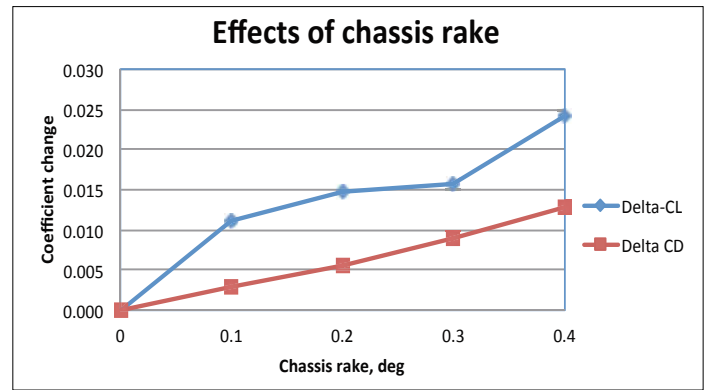
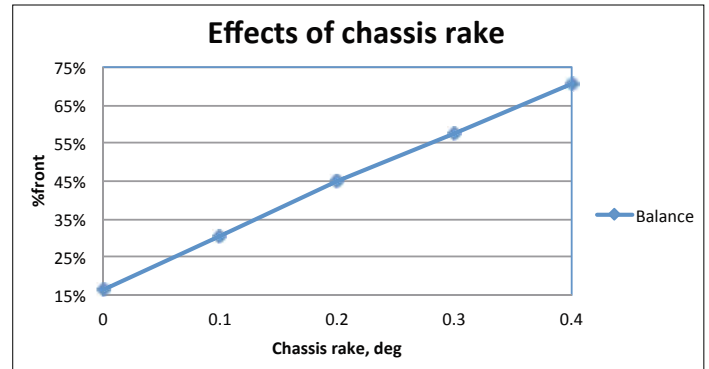

Figure 12: Adding chassis rake altered downforce and drag
Figure 13: Balance was profoundly affected by chassis rake adjustments
floor and stationary wheels) chassis rake can be a potent aerodynamic tuning tool. So, a medium diffuser angle was set (the diffuser exit was set to 100mm or 3.94in, corresponding to 9.4 degrees roof angle) and the chassis was rotated about the front tyre contact line to a range of rake angles from zero to 0.4 degrees. These rake angles corresponded to the changes to front and rear ground clearance, and the data arising are shown in the plots in **Figures 12 and 13**.
**Figure 12** shows a modest, non-linear increase in total downforce (-CL) and an essentially linear increase in drag with increasing rake angle. Much more striking, though, was the change in aerodynamic balance shown in **Figure 13**, which was highly linear and very pronounced. Clearly, a much broader matrix of configurations and rake angles is called for, but with approximately 12mm (1/2in) of rake, the model went from being aerodynamically 'front light' to something that would be very close to being balanced at 45 per cent front.